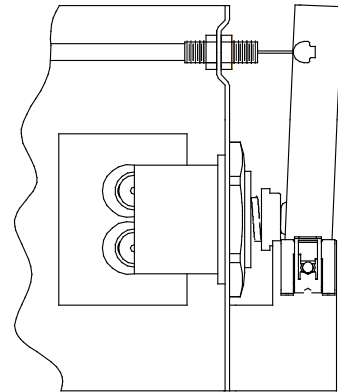

FIG. 14
3. Remove cable free play by adjusting the jam nuts on the ends of the operating cable. See Figure 14.